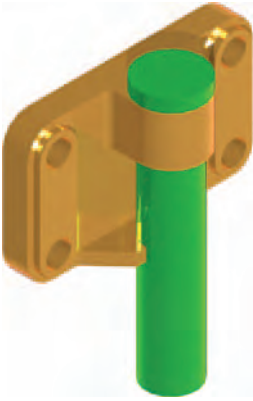

Fig. 18.16 First example – 3D models
First example (Fig. 18.16)
7. **Isometric** view. Render. Adjust lighting and materials as necessary (Fig. 18.16).